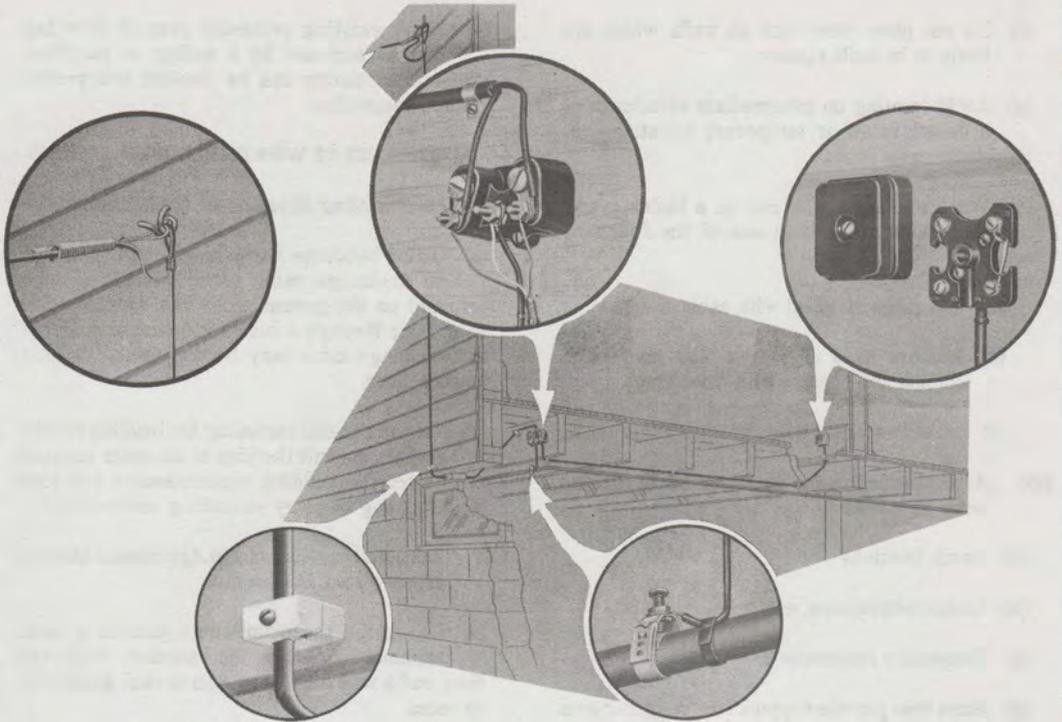

Fig. 4—Typical Wiring Routes
- (1) In finished buildings, such as apartment houses, multi-unit dwellings, or other living quarters, if the service installed is for 0-1 key service, keyless stations, or extensions from PBX-type service
- (2) When service orders have been issued in advance, pending the availability of facilities to connect service.
3.02 Fig. 4 and Table A show various points which should be considered when selecting routes for wire and cable.⚡